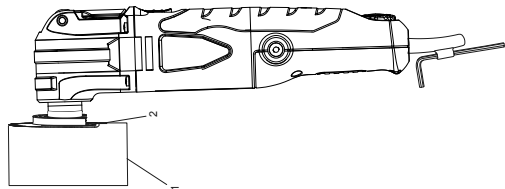

Figure 7
2. Place the floor vent on the floor and use a soft lead pencil to trace the required rectangular hole (1) on the flooring. (Figure 7)